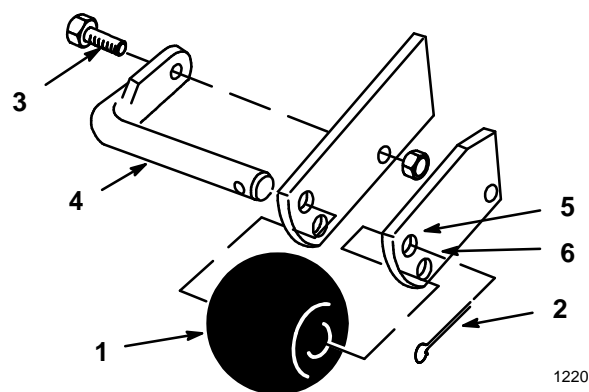

Figure 18
The anti-scalp roller helps guide the mower over uneven turf without scalping the lawn. For most cutting conditions this roller should be set in the lower hole (Fig. 18). When cutting in 1-1/2" height-of-cut or lower move the anti-scalp roller to the upper hole position.
2. Remove cotter pin, bolt and shaft to change hole location (Fig. 18).
3. Select the hole position for the height-of-cut to be used and insert rod (Fig. 18).